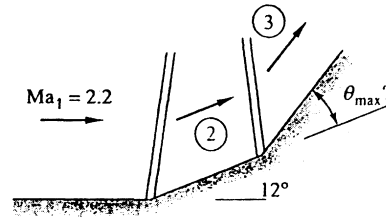

Fig. P9.139
**9.139** Airflow at  $Ma = 2.2$  takes a compression turn of  $12^\circ$  and then another turn of angle  $\theta$  in Fig. P9.139. What is the maximum value of  $\theta$  for the second shock to be *attached*? Will the two shocks intersect for any  $\theta$  less than  $\theta_{\max}$ ?